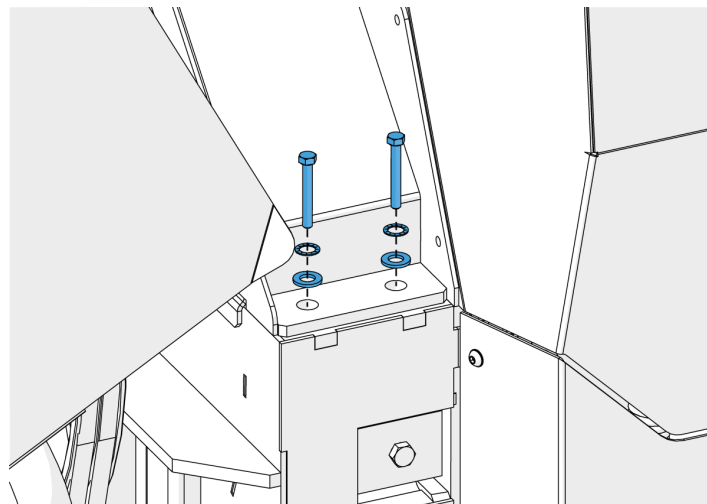

Figure 44 - Chipping chamber cover bolts
5. Remove the two bolts holding the chipping chamber cover closed (Figure 44).